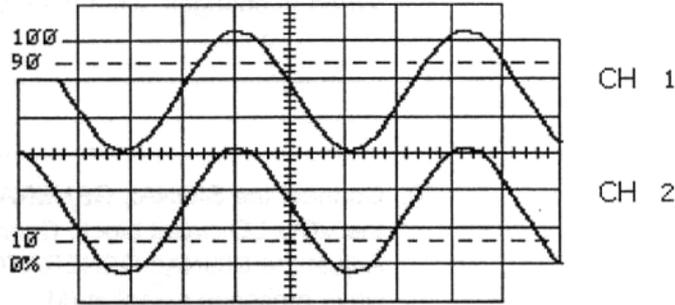

Figure 7-23.
35. Slowly increase f_i (CH1) by turning the NEGATIVE SUPPLY knob CW. When the f_{vco} signal starts to track f_i and V_i is about $-4.0 V_{dc}$, stop turning the NEGATIVE SUPPLY knob CW. The signals should appear, as shown in Figure 7-23.